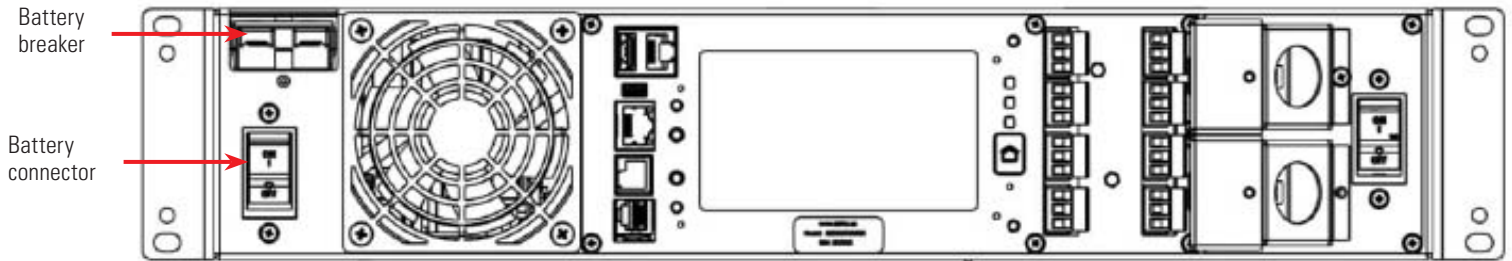

Figure 16: FXM HP 650 front panel
8. Connect the external batteries to the battery connector on the Alpha® FXM HP 650 UPS (see Figure 16).